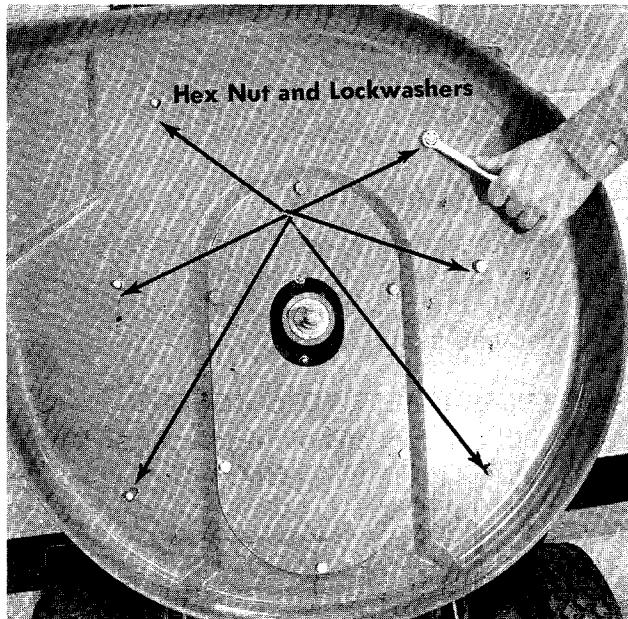

FIGURE 23. REMOVING THE DECK
Step 3. Take off the deck by removing the six hex nuts and lock washers as shown in figure 23.